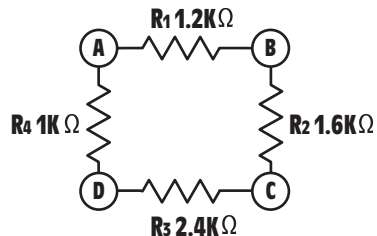

Figure 7-22 Practice Problem 2.
2. Refer to the circuit shown in *Figure 7-22*. Determine the amount of resistance that would be measured across the points indicated.